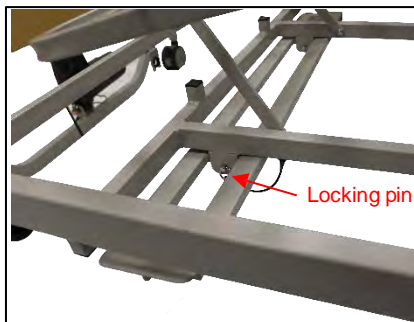

Figure 14: Extending the bed
- The extension platform is located under the footend of the bed and is secure with locking pins. (figure 14)